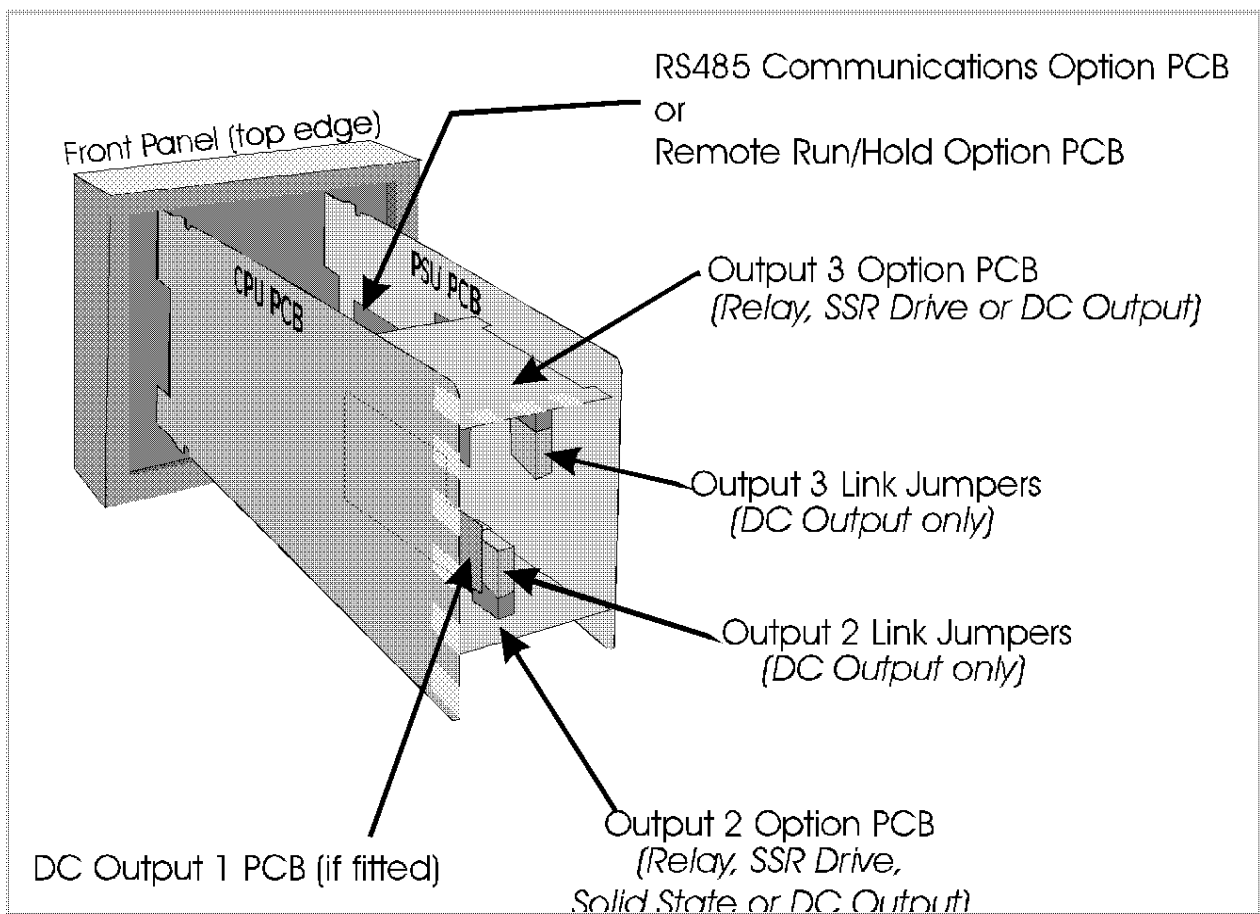
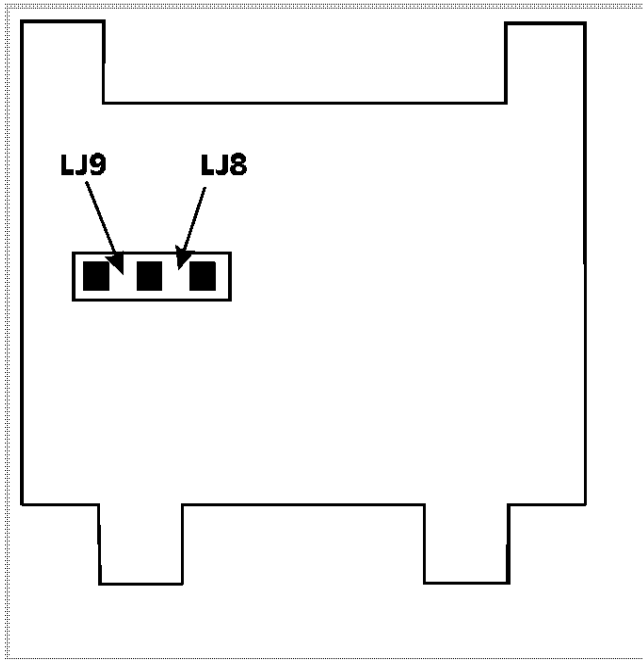

Figure 7-1 PCB Positions
Figure 7-6 DC Output Option PCB (Output 2/Output 3)
To withdraw the instrument from its housing, simply grip the side edges of the front panel (there is a finger grip on each edge) and pull the instrument forwards. This will release the instrument from its rear connectors in the housing and will give access to the instrument PCBs. Take note of the orientation of the instrument for subsequent replacement into the housing. The positions of the PCBs in the instrument are shown in Figure 7-1.
The type of output for Output 2 and Output 3 is determined by the Option PCB fitted in the appropriate position (see Figure 7-1) and, in the case of the DC Output Option PCB being fitted, the setting of Link Jumpers LJ8 and LJ9 on that Option PCB (see Figure 7-6 and Table 7-3). There are four types of option PCB which may be used for Output 2 and Output 3:
4. Analog DC Output Option PCB (link jumpers as shown in Figure 7-6)